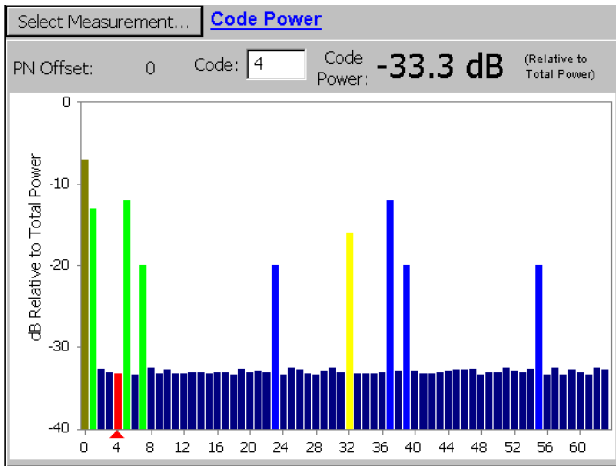

Figure 3-51: cdmaOne Code Power display
5. Tap **Code Power**. See Figure 3-51.
5. Tap **Code Power**. See Figure 3-51. The upper graph shows a magnified section of the lower graph. Use the scroll bar at the bottom of the window to scroll the upper graph.